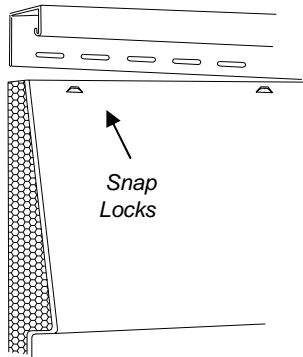

Figure 10.
- **Use a crimping or Snap Lock Tool.** If this method is used, make certain that the panel “snaps” into the receiving J. Depending upon where the rip cut falls the receiver may be 1-1/8” J or 5/8” J. In some cases, a small strip, approx. 1-1/2” wide X 1/8” to 1/4” thick, placed in the J prior to the installation of the panel, is needed to assure positive engagement of the crimps. Measure from the soffit to the bottom of the top lock on the previous course of siding. Subtract 1/4”. Mark and cut the top course panel. Crimp the I approximately every 6” and install the panel (Fig.10).